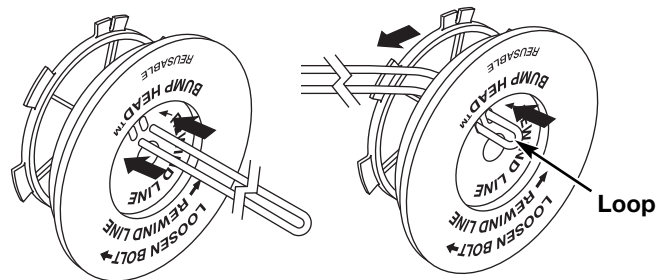

Fig. 27
6. Take approximately 5 m (16 feet) of new trimming line, loop it into two equal lengths. Insert each end of the line through one of the two holes in the inner reel (Fig. 27). Pull the line through the inner reel so that the loop is as small as possible.